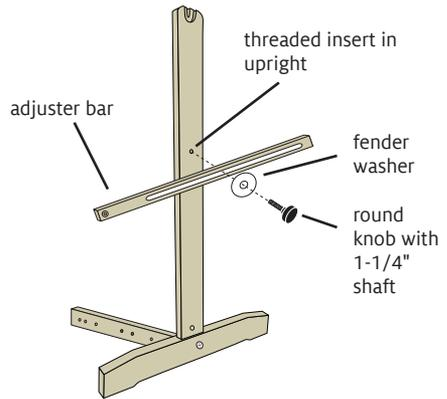

FIGURE 4: ATTACH ADJUSTER BARS TO THE UPRIGHTS
- Insert the knob into the long slot on the adjuster bar (Figure 4).
To reposition the loom, slightly loosen the round knobs and T-knobs on the uprights (Figures 4 and 5, page 3). Position the loom as desired and retighten all knobs. ■